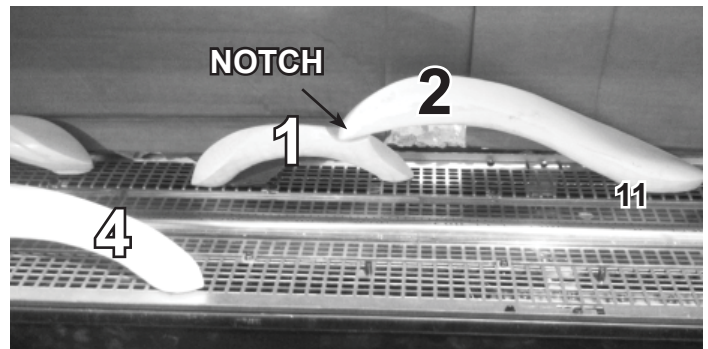

Figure 7. (SRV2310-752)
8. **(SRV2310-752):** Install Log #2 by placing the larger end of the log contacts screw #11 and the small end of the log rests on the notch of Log #1. See Figure 7.